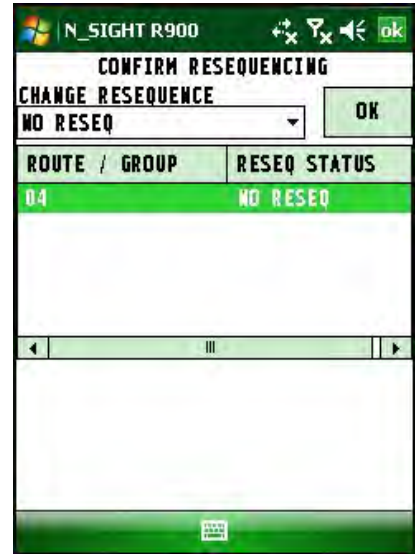

Figure 6.45 Confirm Resequencing Screen
- 1 When you press  to exit the N_SIGHT R900 software, the Confirm Resequencing screen appears as illustrated in Figure 6.45.